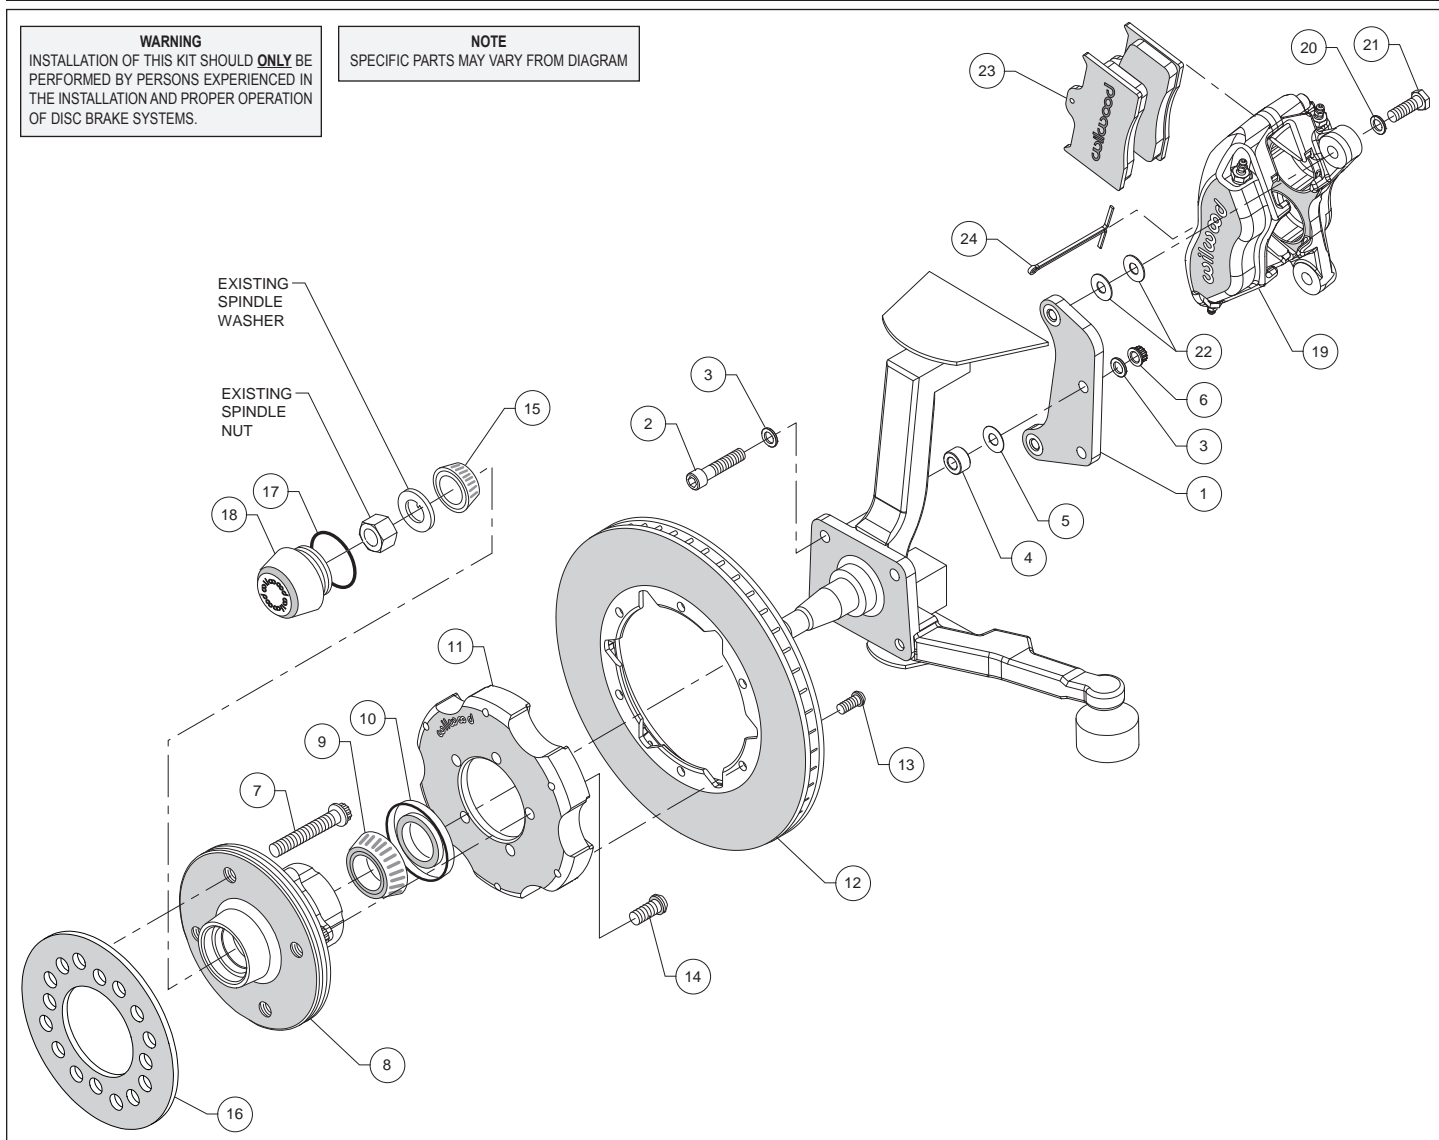
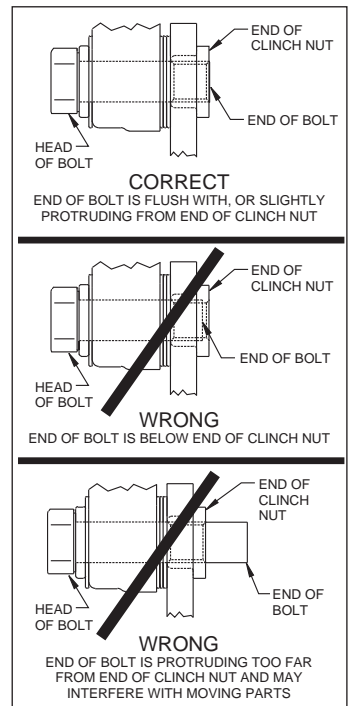

Figure 1. Typical Installation Configuration
Figure 3. Clinch Nut Engagement Diagram
Assembly Instructions (numbers in parenthesis refer to the parts list, on the preceding page and Figure 1): **CAUTION:** All mounting bolts must fully engage clinch nuts. Be sure to check that all bolts are either flush or protruding through flanged side of clinch nut after shimming, Figure 3.
- The caliper mount bracket (1) should initially be installed with clean, dry threads on the mounting bolts. Orient the bracket as shown in Figure 1 and Photo 1, and install using bolts (2), washers (3) and nuts (6). Place one spacer (4) and one shim (5) between the spindle to start, Figure 1. Ensure that the flanged heads of the clinch nuts in the bracket are facing outboard, Photo 1. Temporarily tighten the mounting nuts. **NOTE:** The bracket must fit squarely against the mounting points on the spindle. Inspect for interference from casting irregularities, machining ridges, burrs, etc.
- Check that the bracket is aligned parallel to the rotor by assembling and installing hub/rotor per steps below, Photo 2. If not, add or subtract shims (5) between spacer and bracket, Figure 1.
- Mount the hat (11) to the hub (8) using bolts (14), as shown in Figure 1 and Photo 6. Using an alternating sequence, apply red Loctite® 271 to the threads, and torque to 55 ft-lb.
- Orient the rotor (12) and the hat/hub assembly (8/11) as shown in Figure 1 and Photo 7. Attach the rotor to the hat using bolts (13). Using an alternating sequence, apply red *Loctite*® 271 to the threads, and torque to 25 ft-lb.
- Pack the small outer bearing cone (15) with high temperature disc brake bearing grease and install into hub (8). Slide the hub/rotor/hat assembly onto the spindle. Secure using OEM spindle washer and spindle nut, Photo 8. Adjust bearings per OEM specifications. Install saved OEM nut lock (if any) and a new cotter pin (not supplied).
- Screw dust cap (18) into hub (8), Photo 9. Friction created by the o-ring (17) on the dust cap keeps it from unscrewing.
- NOTE:** Please reference the caution statement at the beginning of the assembly instructions. Mount the caliper (19) onto the caliper mounting bracket (1) using bolts (21) and washers (20), as shown in Figure 1. Initially place two .035" thick shims (22) on each bolt between the caliper and the bracket, Photo 10. Temporarily tighten the mounting bolts and view the rotor (12) through the top opening of the caliper. The rotor should be centered in the caliper, Photo 11. If not, adjust by adding or subtracting shims between the bracket and the caliper. Always use the same amount of shims on each of the two mounting bolts. **NOTE:** The end of each bolt must be flush with or slightly protruding from the head of the clinch nut, as shown in Figure 3. If necessary place spare shims between washer (20) and caliper mounting ear to achieve the proper clinch nut engagement. Once the caliper alignment and clinch nut engagement are correct, remove the bolts one at a time, apply red *Loctite*® 271 to bolt threads, and torque to 40 ft-lb.
- Install the disc brake pads (23) into the caliper, with the friction material facing the rotor (12), and secure in place using cotter pin (24), Photo 12.
- Install wheel spacer (25) as shown in Figure 1 and Photo 13. Temporarily install wheel and torque lug nuts to manufacturer's specification. Ensure that the wheel rotates freely without any interference. **NOTE:** Wheel spacer (25) MUST be used if any wheel contact surfaces overhang the outside diameter of the hub face. See warning on page 3.